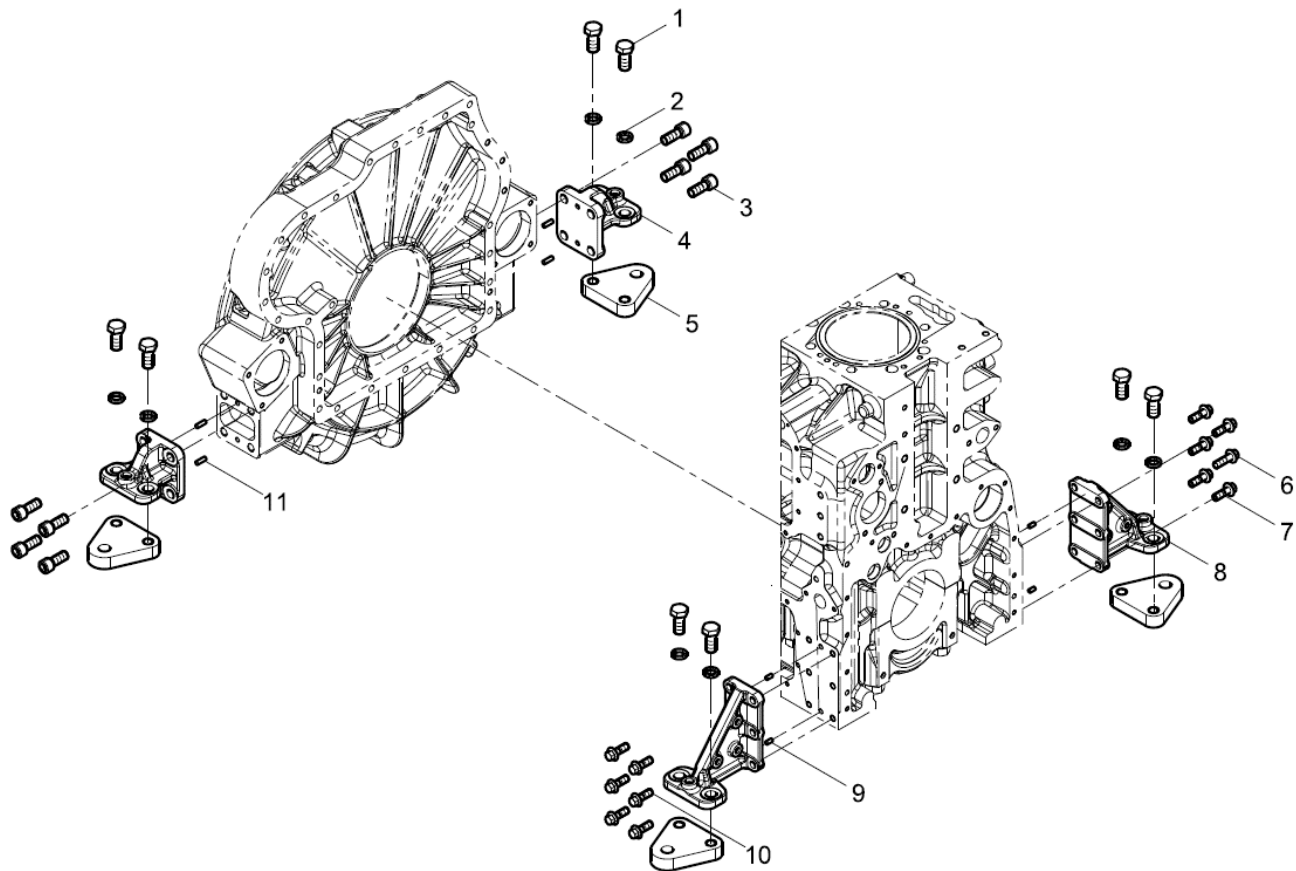

Figure 4. Engine Bracket Assembly
1. Remove the bolts and washers (Figure 4, Items 1, 2, 3, 6 & 7).
2. Remove the engine brackets (Figure 4, Items 4, 5 & 8).
2. Install the pins (Figure 4, Items 9 & 11)
3. Place the engine brackets on the cylinder block and flywheel housing (Figure 4, Items 4, 5 & 8).
4. Install and tighten the bolts/washers to the standard torque (Figure 4, Item 1, 2, 3, 6 & 7).